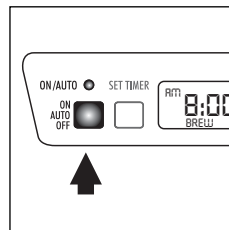

fig. 7
- **Models with electronic control panel:** you can enhance the flavor of your coffee by pressing the **AROMA** button. This feature activates a unique brewing process, slowly releasing water into the filter basket; saturating coffee grounds a little at a time, extracting the best flavor and aroma from your coffee. To activate, press the AROMA button; the light above the button will illuminate. Press the button again to turn the selection off. *It is recommended to use the AROMA function if not brewing a whole carafe of coffee.* Press the ON/AUTO/OFF button (fig. 7). The red light indicates that the coffee maker is in operation and the display shows "BREW".